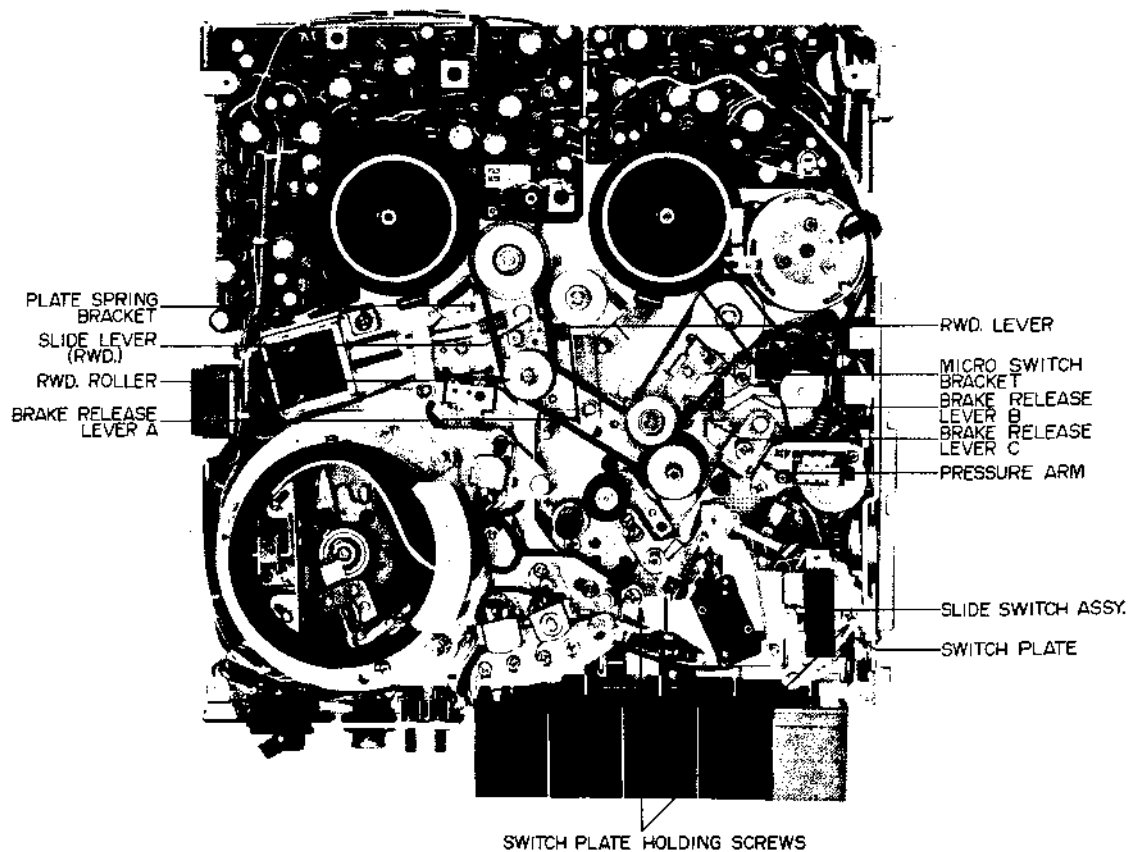
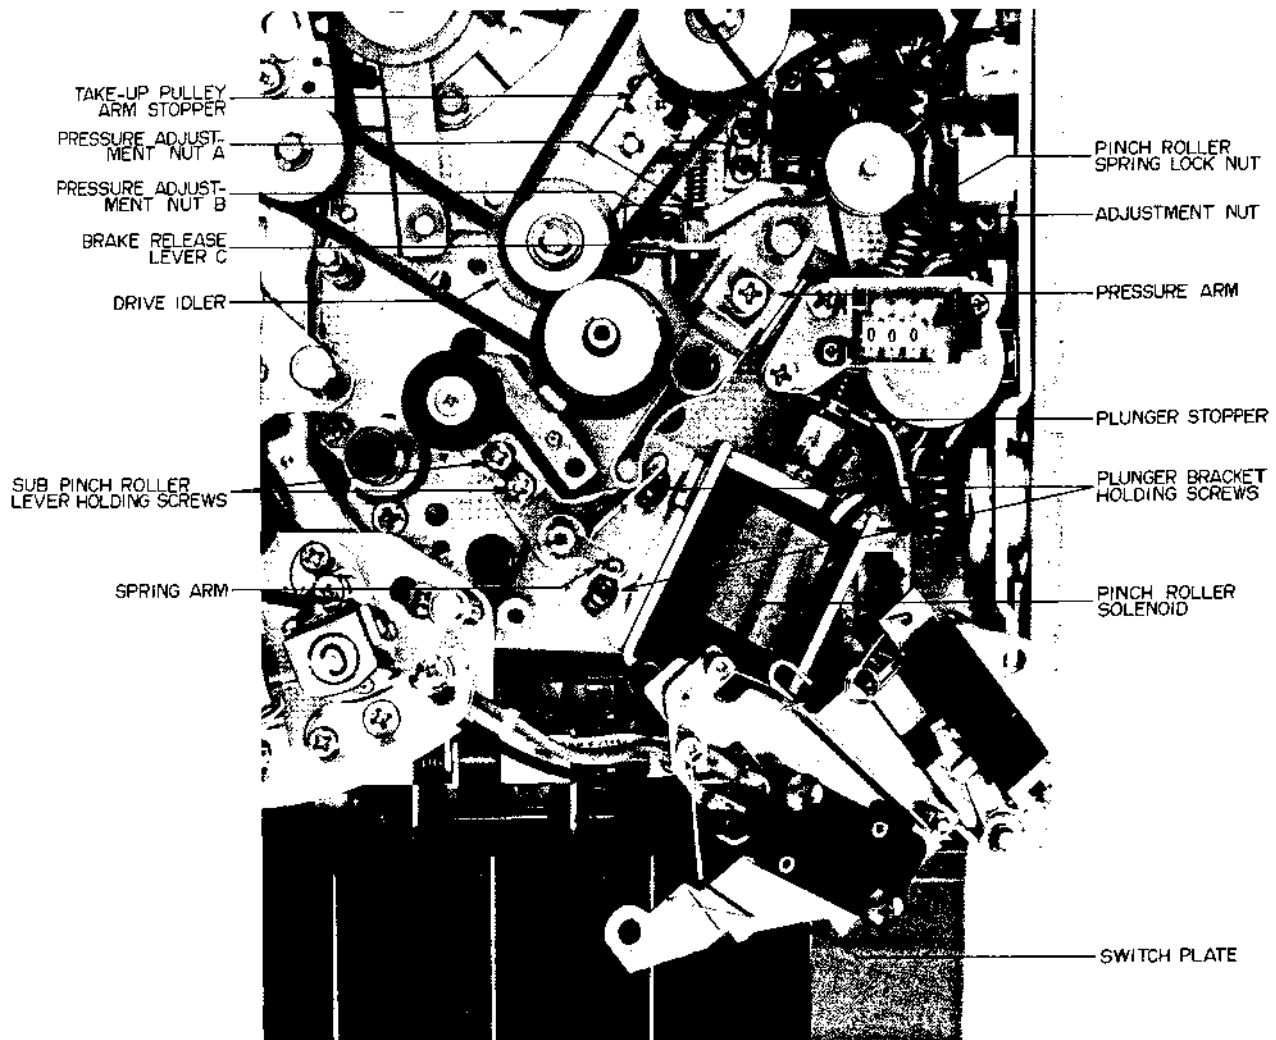

Fig. 1-1
Fig. 1-2
- a) Remove the two switch plate holding screws (Refer to Fig. 1-1) and move the slide switch assembly as shown in Fig. 1-2.
- a) Adjust Brake release lever "C" so that at playback mode, the brake shoe separates from the reel table drum by about 1 mm, and at stop mode, brake lever "B" does not touch lever "A". (Refer to Fig. 1-1)
- c) Adjust the micro switch bracket so that brake tension lever "B" pushes the 2 micro switches perfectly at playback mode, and the 2 micro switches are turned off perfectly at stop mode. (Refer to Fig. 1-1)